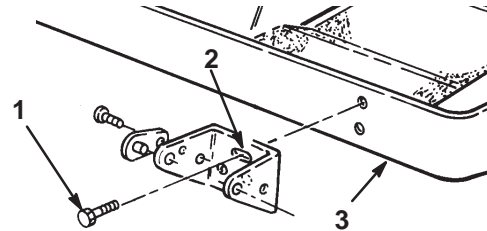

Figure 4
- Groundsmaster 220-D, 223-D, 228-D, 225, 224 and 1000L – Insert 2 flange head capscrews (3/8 x 1 in.) through the slotted bracket holes. Thread the screws into the captivated frame nuts and torque them to 45–50 ft.-lb. (61–68 N·m) (Fig. 4).